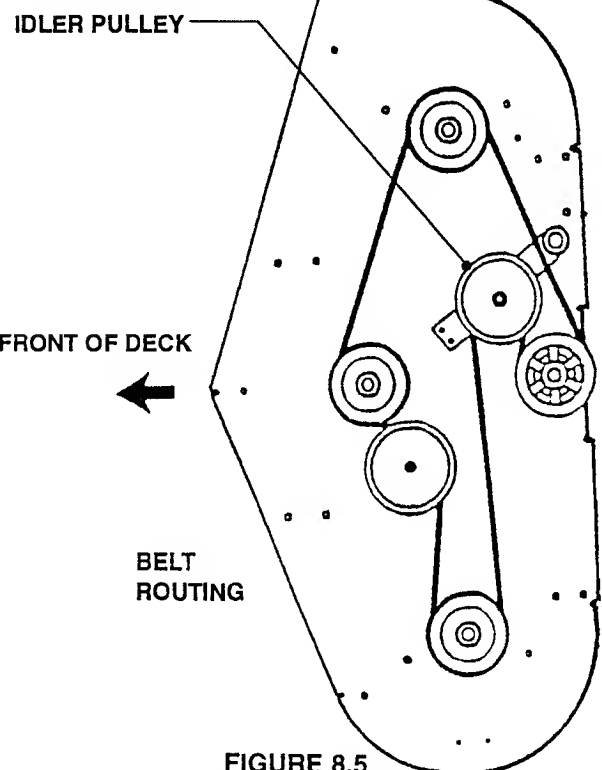

FIGURE 8.5
4. Route new Belt around Blade Pulleys and Idler Pulley in the same position as old Belt was removed. It may be necessary to use a pry bar to pull Idler Pulley back to install Belt. See Figure 8.5.